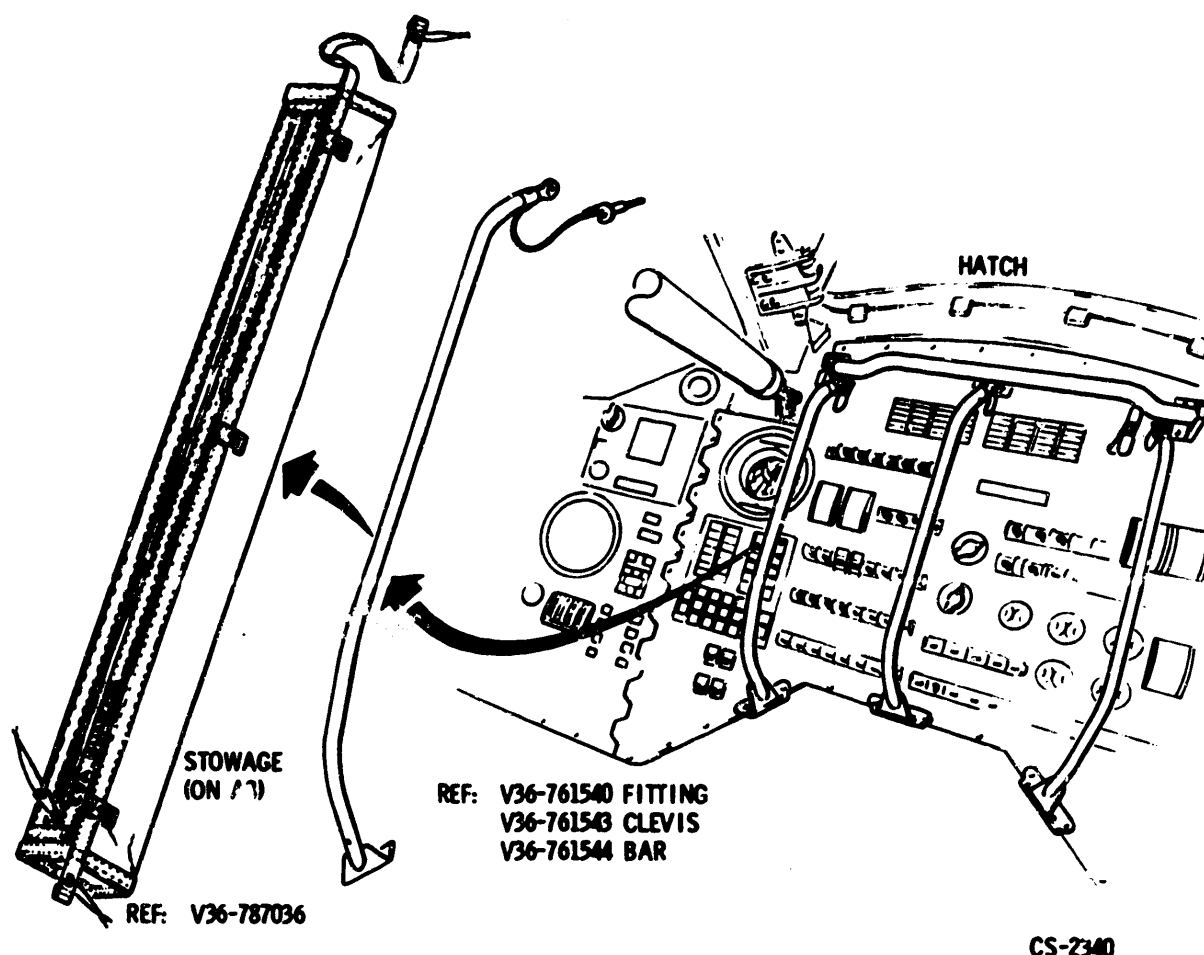

Figure 2.12-11. EVA Guards
2.12.3.2.5 EVA Guards (Figure 2.12-11).